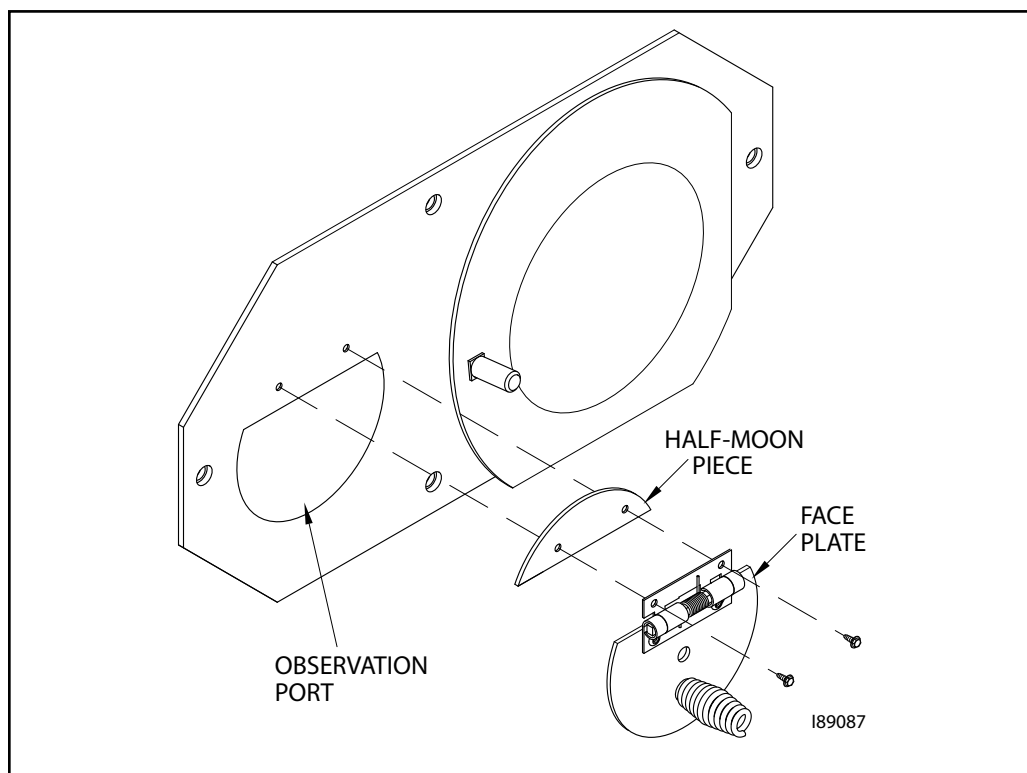

Figure 3B - Assembly of Observation Port
1. Refer to Figure 3B.
2. Use a 1/4" nut driver to remove the two (2) self-tapping screws from the half-moon piece.